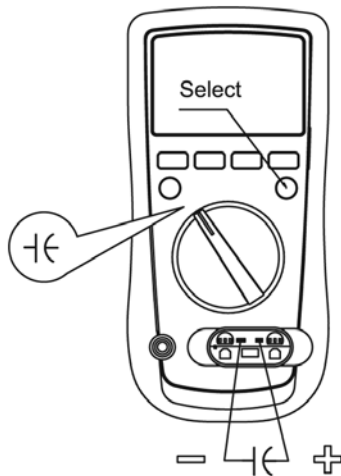

figure 7
- Connect the test leads to the proper terminals as said above to avoid error display. The LCD will display OL indicating diode being tested is open or polarity is reversed. The unit of diode is Volt (V), displaying the forward voltage drop readings.
F. Capacitance Measurement (See figure 7)